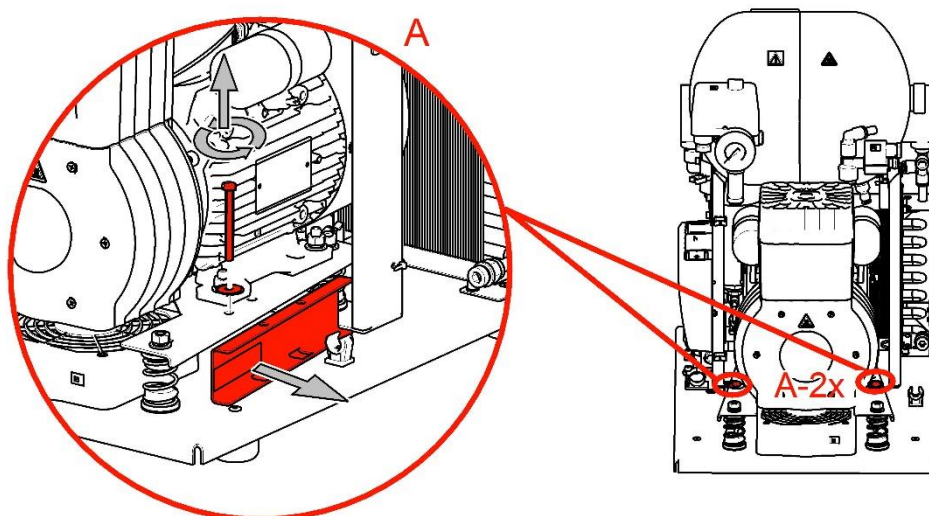

Fig. 6
- Remove the transport stabilisers from the aggregates. (Fig. 6)